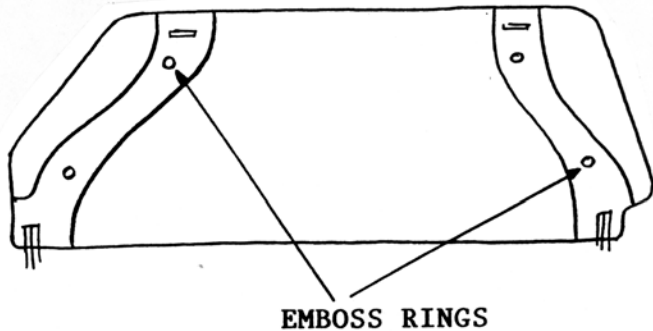

FIG. 1
**NOTE:** THE SNAP LOCATIONS SHOULD LINE UP WITH THE CENTER OF THE FOUR EMBOSS RINGS ON THE RAISED RIBBING ON THE INSIDE OF THE SADDLEBAG, AS PER FIGURE 1.